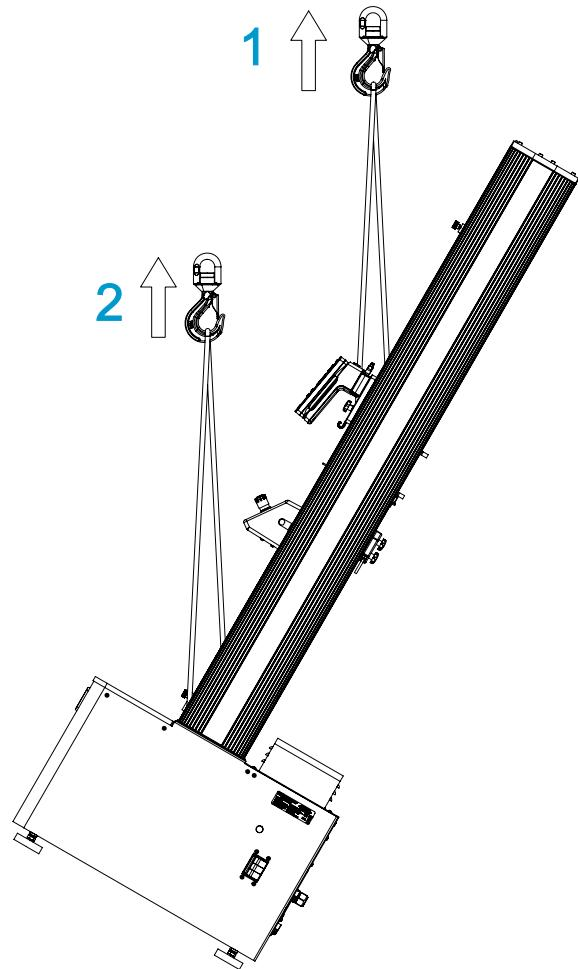

Figure 18. Righting a Load Frame Using a Crane
Refer to Figure 18 on page 70.
2. Attach the two lifting slings to the crosshead and secure them to the crane hook as shown in Figure 18 on page 70. If you use chains in lieu of lifting slings, wrap protective material around the crosshead to protect the crosshead from scratching and marring. Chains can also cause damage to other parts of the frame, the top plate for example; be sure to wrap protective material around all vulnerable components.
3. Install two M16 hoist bolts into the frame base and attach two additional slings to the bolts, as shown in Figure 18 on page 70.
Legend for Figure 18